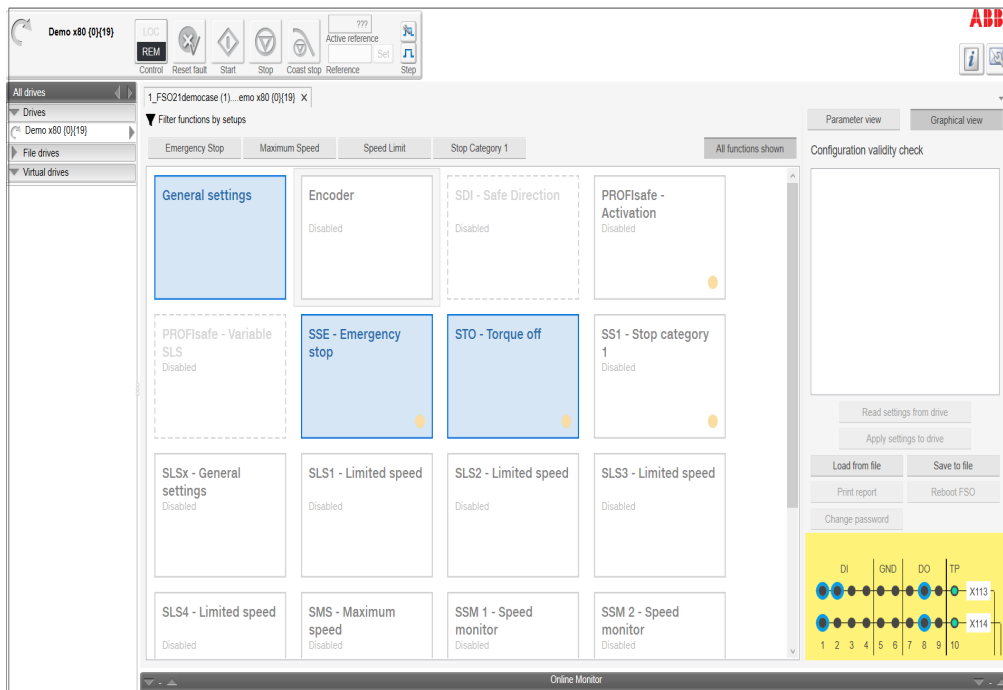
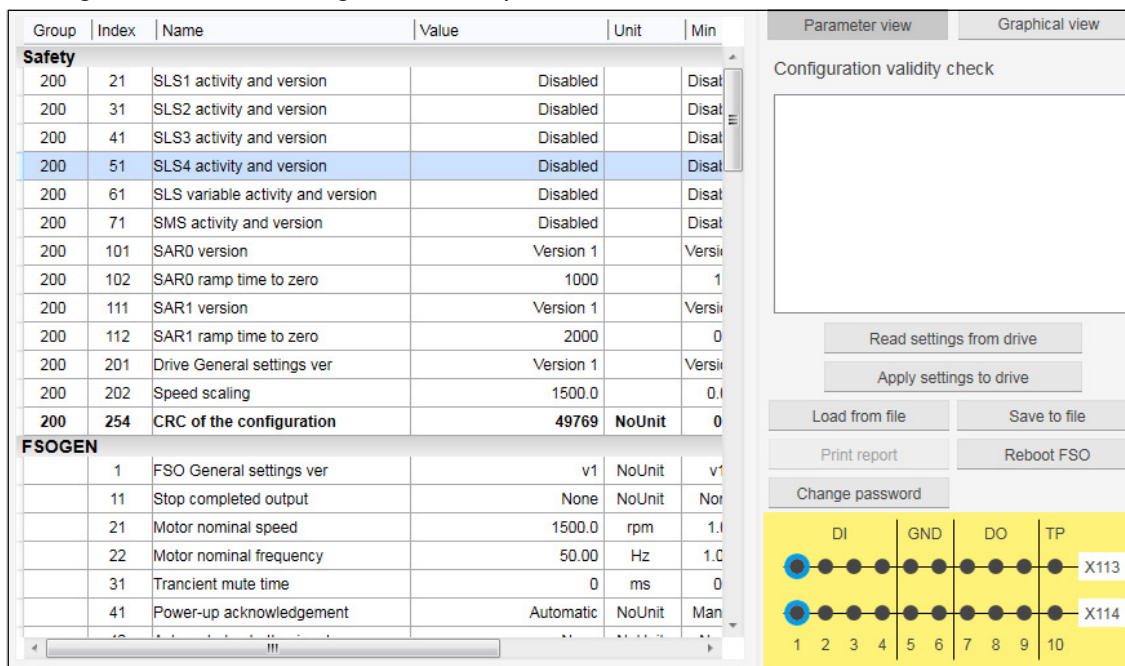

Figure 118. FSO configuration: Graphical view
Figure 119. FSO configuration: Parameter view
You can switch between **Graphical view** and **Parameter view**. See Figure 118.FSO configuration: Graphical view and Figure 119.FSO configuration: Parameter view.
- Graphical view cannot be used for setting safe IO, cascade function or for SBC function (see Figure 118.FSO configuration: Graphical view). Instead use the Parameter view (see Figure 119.FSO configuration: Parameter view).